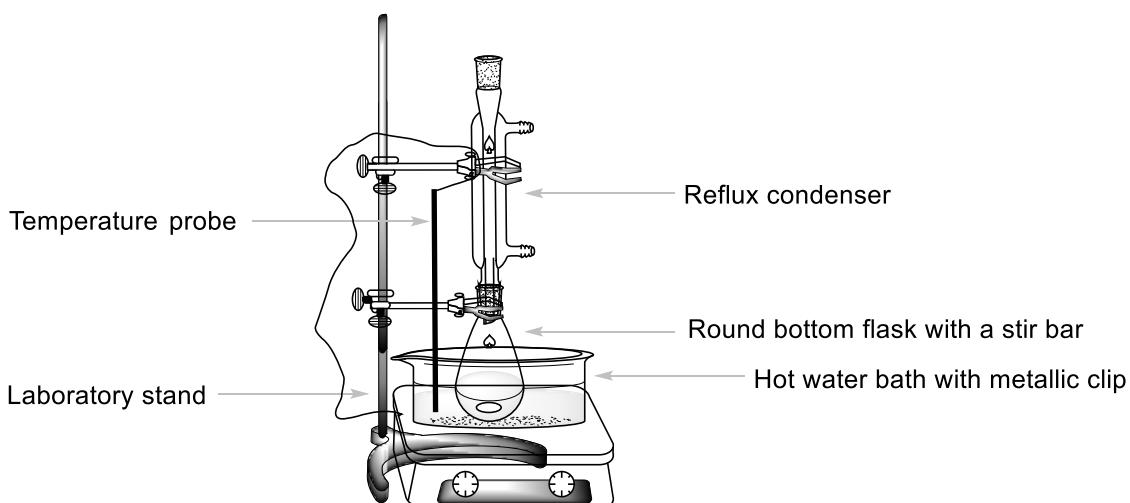

Figure 1. Setup for heating the reaction mixture in a water bath.
- Place the round bottom flask into the hot water bath. Attach an air reflux condenser (water connection is not needed) and secure it in the upper part by a loosely attached large clamp, as shown in Figure 1. Let compound **A** dissolve with stirring.
Preheat the water bath to 80 °C. Insert a magnetic stir bar into the 50 cm³ ground-joint Erlenmeyer flask containing the organic phase **O2** from step II.6 and add 0.300 g of 2,4-dinitrophenylhydrazine (**DNPH**). In a graduated cylinder, measure 10 cm³ of ethanol. Using a glass Pasteur pipette, rinse the glass vial with 5 × 2 cm³ of ethanol to transfer all of the **DNPH** into the Erlenmeyer flask. Place the Erlenmeyer flask into the hot water bath, attach a reflux condenser (similar setup as in Figure 1) rinsed with ethanol. Through the top opening of the condenser, add 3 cm³ of 20% HCl using a funnel and stir the reaction mixture at 80 °C for 2 minutes. Fine orange crystals of product **C** start to form. Then turn off the heating of the hotplate stirrer. Lift the reaction flask above the water bath. (Caution! Touch only the clamps, the flask is hot.) Allow the reaction mixture to cool down for 15 min and then place it into a cold water bath (prepared by pouring cold tap water in a 150 cm³ beaker).